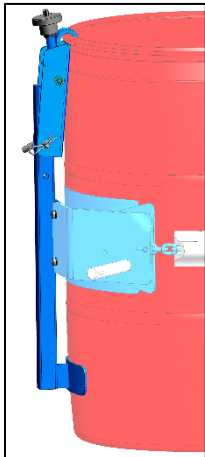

Figure 2.2
- **Kit 4560B-P Top Rim Clamp (figure 2.2)**